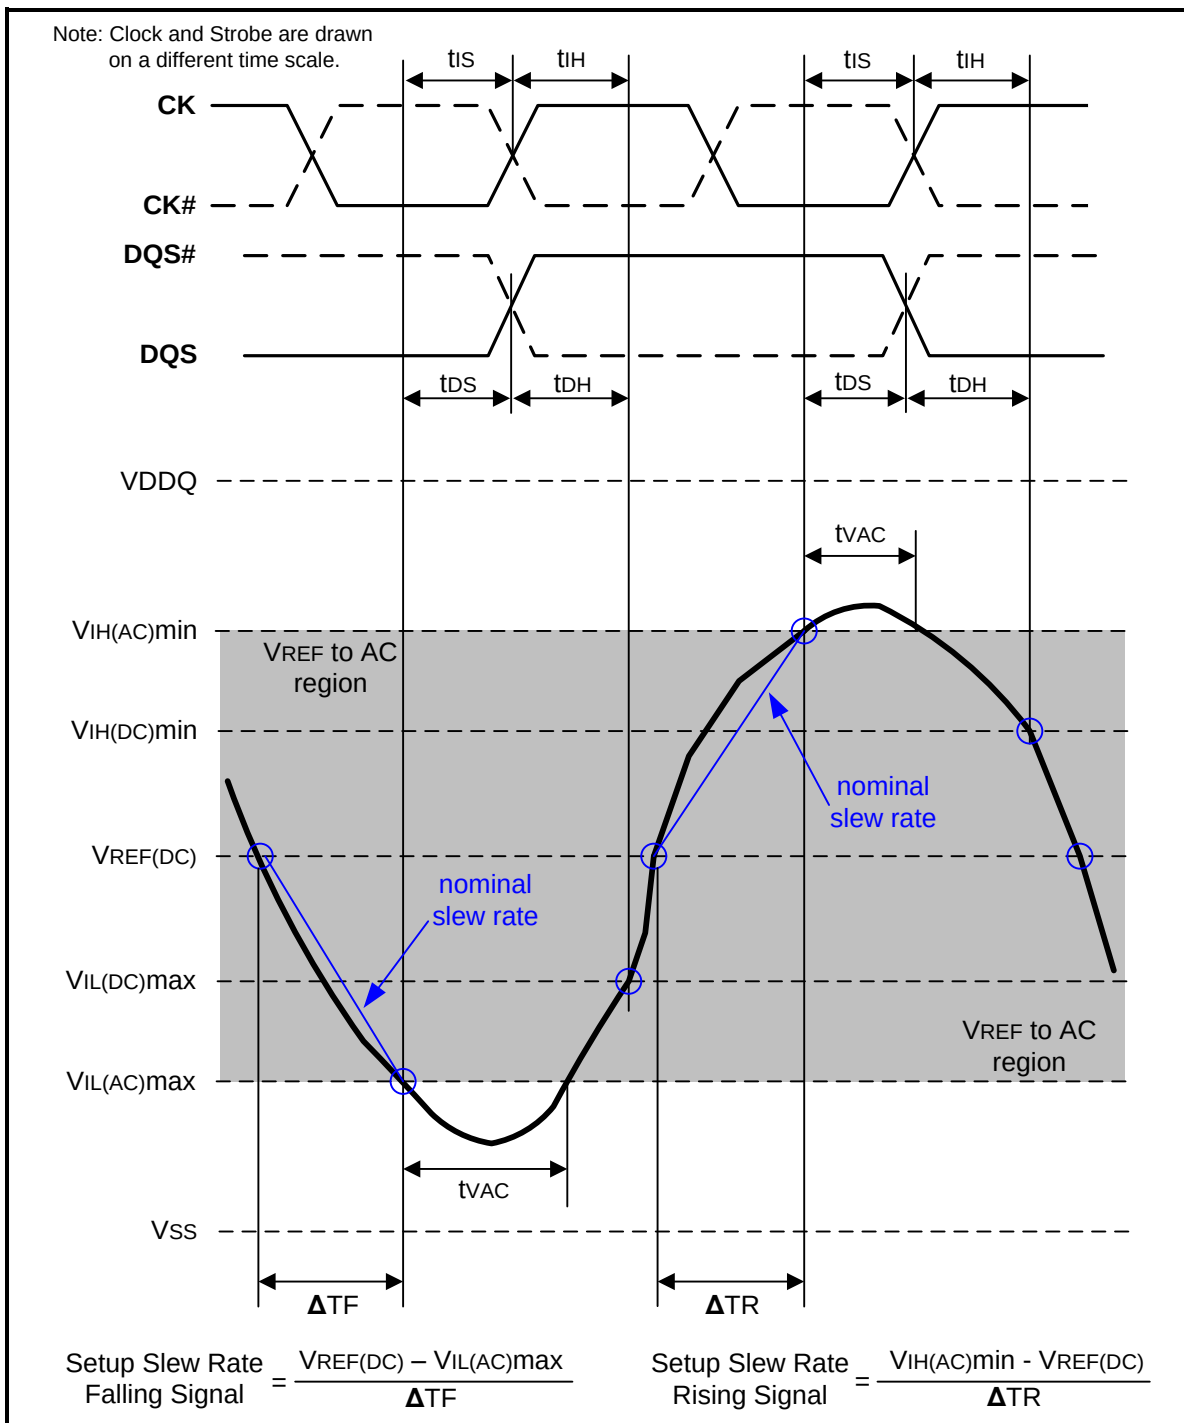
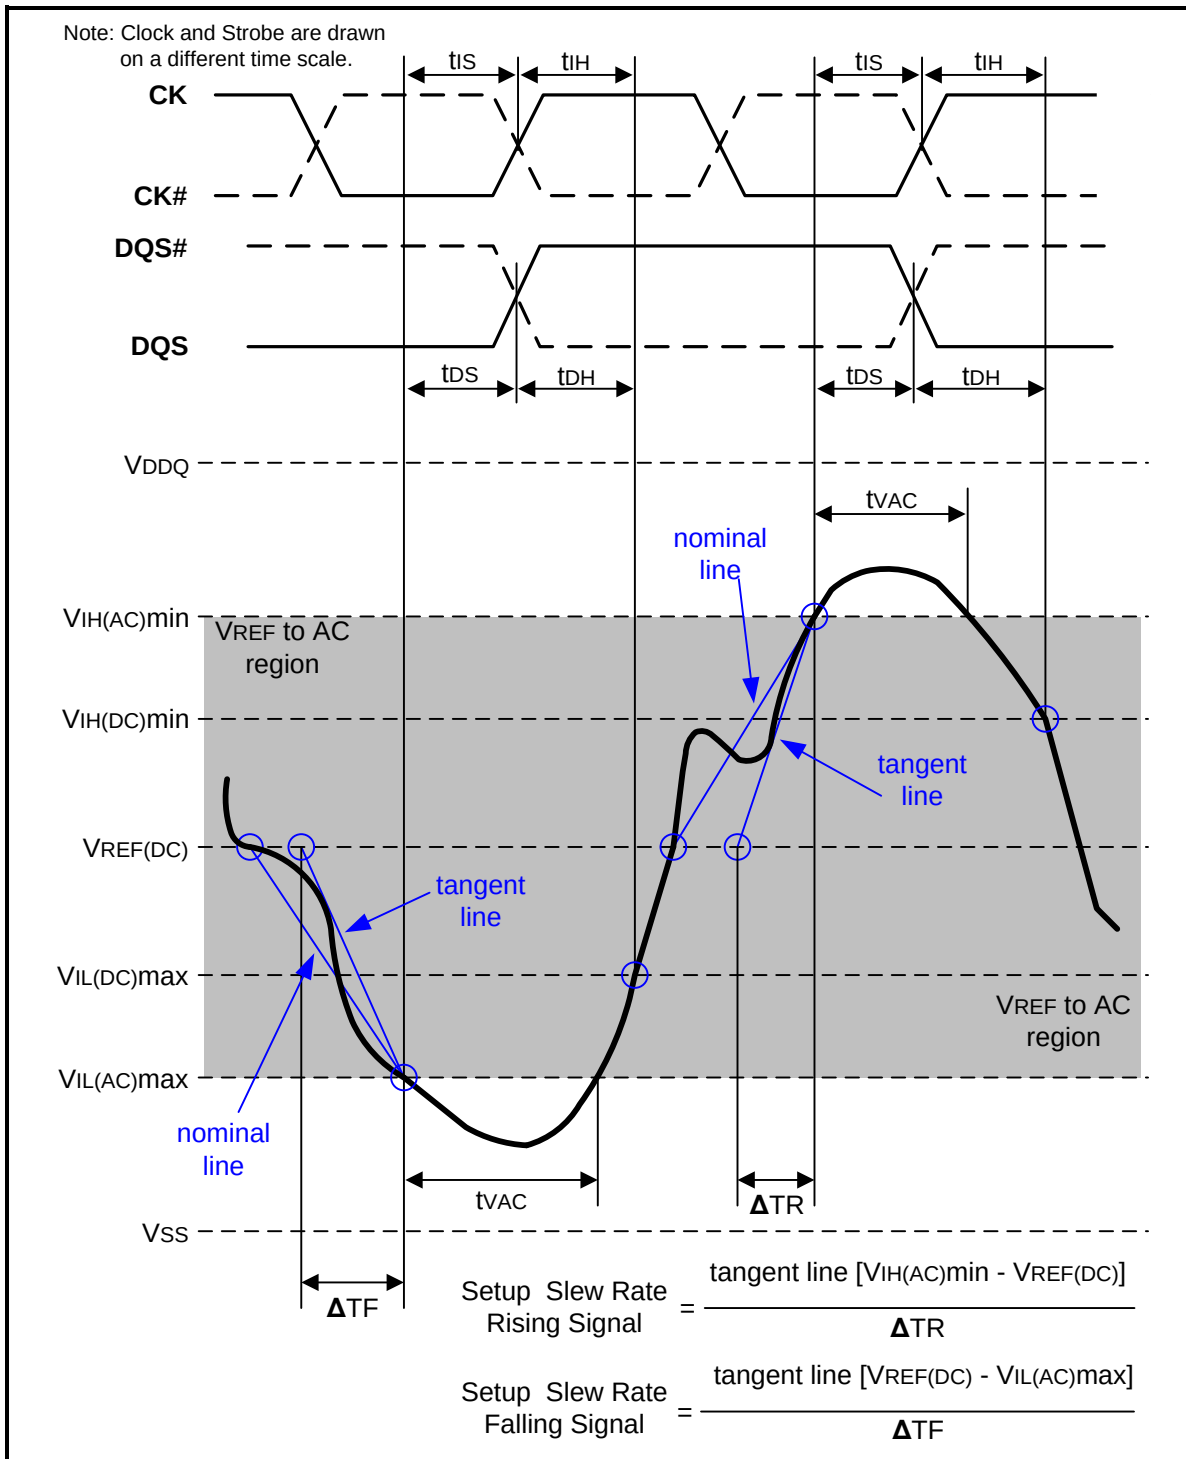

Figure 107 – Illustration of nominal slew rate and tvac for setup time tds (for DQ with respect to strobe) and tis (for ADD/CMD with respect to clock)
Figure 109 – Illustration of tangent line for setup time t_{DS} (for DQ with respect to strobe) and t_{IS} (for ADD/CMD with respect to clock)
Setup (t_{IS}) nominal slew rate for a rising signal is defined as the slew rate between the last crossing of $V_{REF}(\text{DC})$ and the first crossing of $V_{IH}(\text{AC})_{\text{min}}$. Setup (t_{IS}) nominal slew rate for a falling signal is defined as the slew rate between the last crossing of $V_{REF}(\text{DC})$ and the first crossing of $V_{IL}(\text{AC})_{\text{max}}$. If the actual signal is always earlier than the nominal slew rate line between shaded 'VREF(DC) to AC region', use nominal slew rate for derating value (see Figure 107). If the actual signal is later than the nominal slew rate line anywhere between shaded 'VREF(DC) to AC region', the slew rate of a tangent line to the actual signal from the AC level to $V_{REF}(\text{DC})$ level is used for derating value (see Figure 109).
Setup (tDS) nominal slew rate for a rising signal is defined as the slew rate between the last crossing of VREF(DC) and the first crossing of VIH(AC)min. Setup (tDS) nominal slew rate for a falling signal is defined as the slew rate between the last crossing of VREF(DC) and the first crossing of VIL(AC)max (see Figure 107). If the actual signal is always earlier than the nominal slew rate line between shaded 'VREF(DC) to AC region', use nominal slew rate for derating value. If the actual signal is later than the nominal slew rate line anywhere between shaded 'VREF(DC) to AC region', the slew rate of a tangent line to the actual signal from the AC level to VREF(DC) level is used for derating value (see Figure 109).